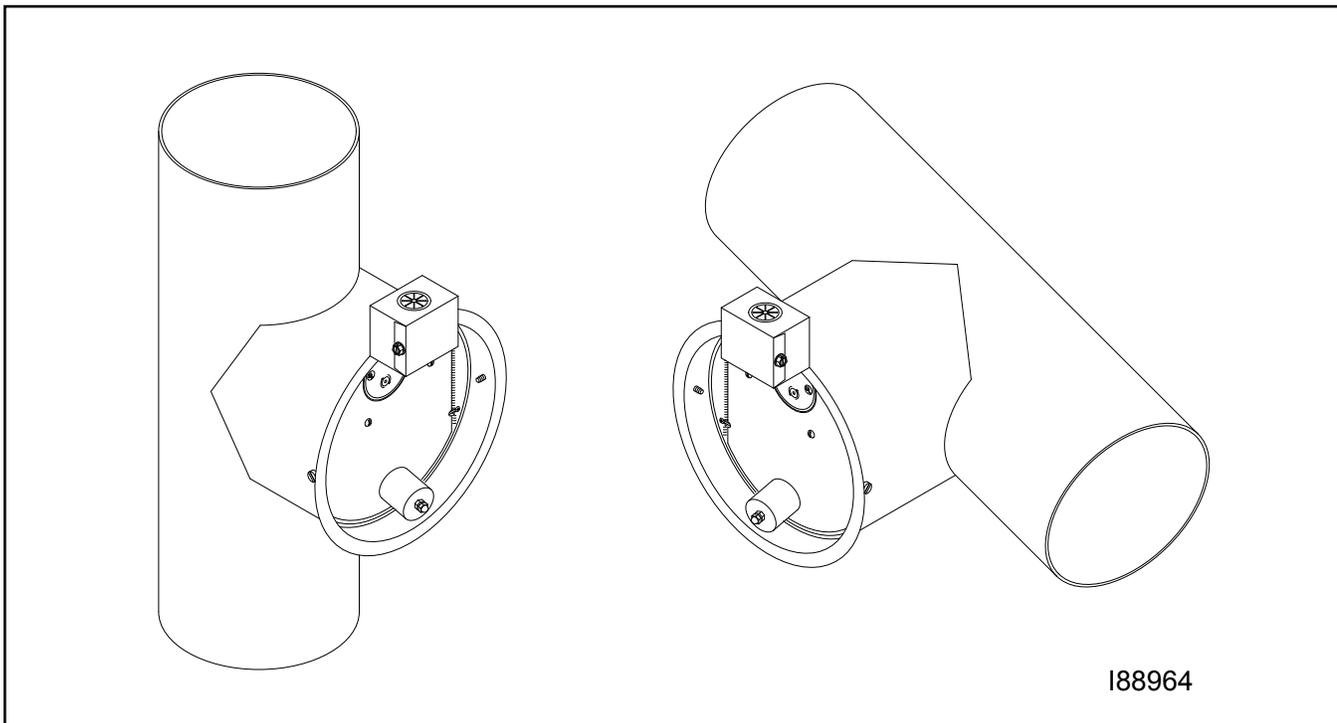

Figure 4P - Stack Safety Switch Installed on the Barometric Damper
3. Position the stack safety switch over the lip of the barometric damper as shown in Figure 4P.